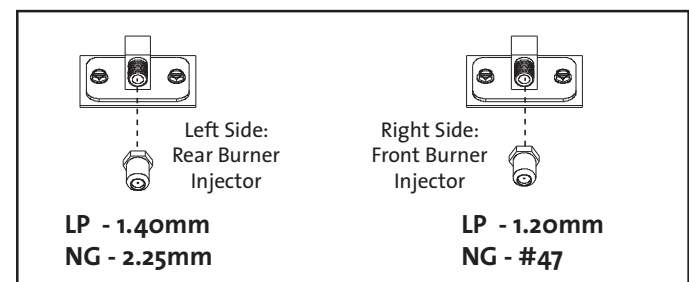

Figure 30. Change the burner injector orifices.
8. Change the Burner Injectors. See fig. 30. Using a 1/2" open end wrench or deep-well socket remove both burner injectors from the brass elbow housings and replace with the appropriate injectors supplied in the kit. **Injectors are labelled: "L" = Left / "R" = Right.**